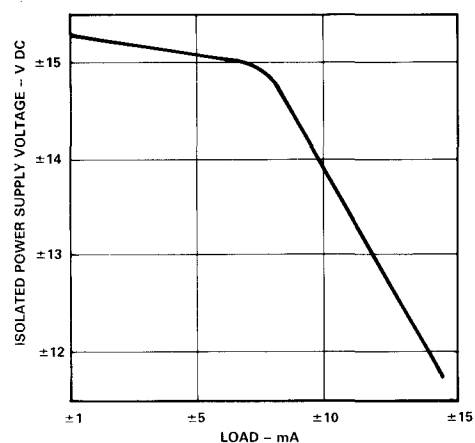

Figure 11. Isolated Power Supply Voltage (V DC) vs. Load (mA)
**Isolated Power.** The load characteristics of the AD203SN's isolated power supplies (i.e.,  $+15\text{ V}$  dc and  $-15\text{ V}$  dc) are plotted in Figure 11.